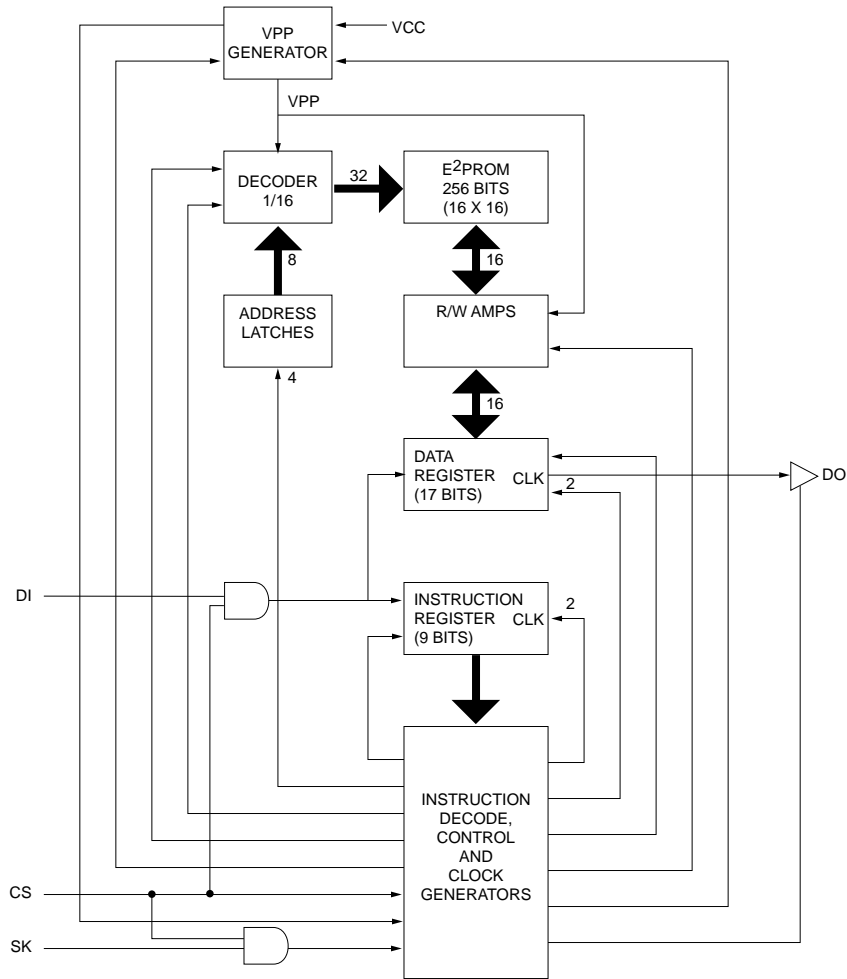

FIGURE 1. Block Diagram
any new cycle. As shown in the functional block diagram (Figure 1) chip select also gates the data input and clock input, thus disabling these functions.
- On any instruction, zeros can be clocked into the DI input before the start bit. Any number of clock cycles may be added if Data-In (DI) is held at zero. The first 1 clocked in will be interpreted as the start bit. This requires special precautions if a bidirectional data bus is used (Data-In tied to Data-Out) as the Busy/Ready Polling will interfere with the Data-In if it is not cleared out at the end of each programming cycle. See Section 2.3, THREE WIRE BUS, for more information.
- During a Read instruction, it is allowable to continue to clock the device after the 16 bits of data has been clocked out. In the case of the NM93CS family this will cause the memory to increment to the next register and present its contents on the Data-Out pin. In the case of all other devices, whatever was present on the Data-In pin will become present on the Data-Out pin (Fall thru). Refer to Figure 1, Block Diagram.